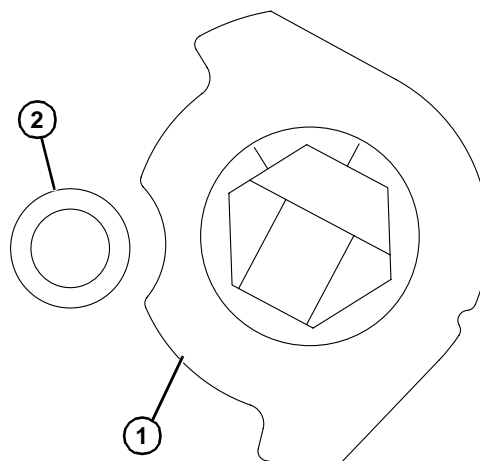

Figure 13
3. Hex shaft assembly will need to be rotated (Figure 13) for stop keys (Figure 13, item 1) to pass by the frame stops (Figure 13, item 2).